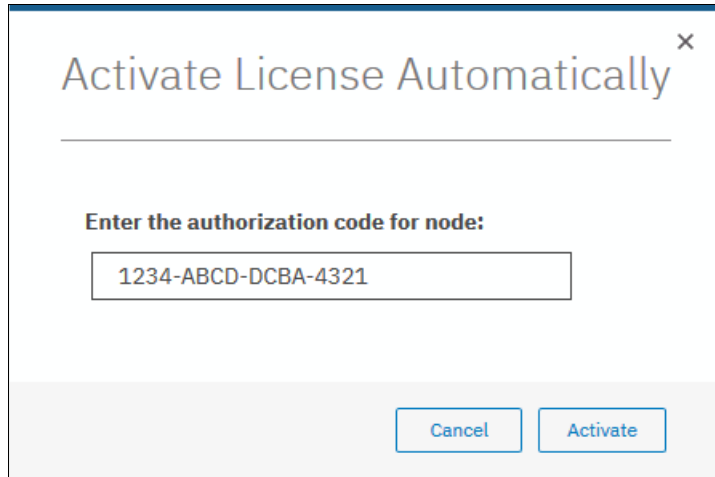

Figure 13-13 Entering an authorization code
2. Enter the authorization code that is specific to the control enclosure that you selected, as shown in Figure 13-13. Click **Activate**.